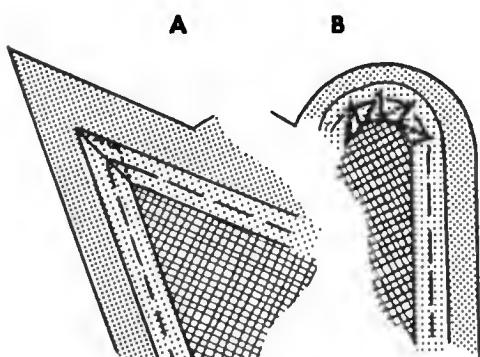

Fig. 162. Taping the corners.
9. Clip or notch the inside edge of the tape where necessary to make it lie flat or shape with an iron. Carefully miter the tape at the corners if the lapel is pointed. For a curved lapel, notch the tape in several places and shape it. You may cut out excess bulk (Fig. 162, a and b).